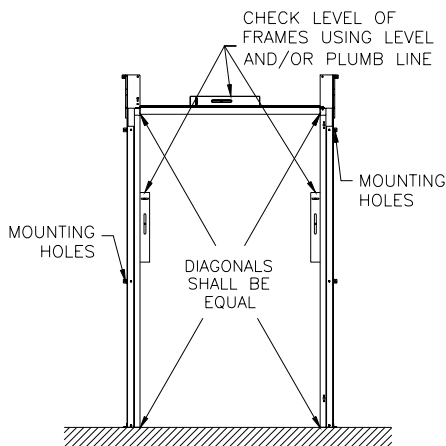

FIG. 6A
a. Check Uprights and Top Stabilizing Tube for plumb, level, and square (Figure 6a).